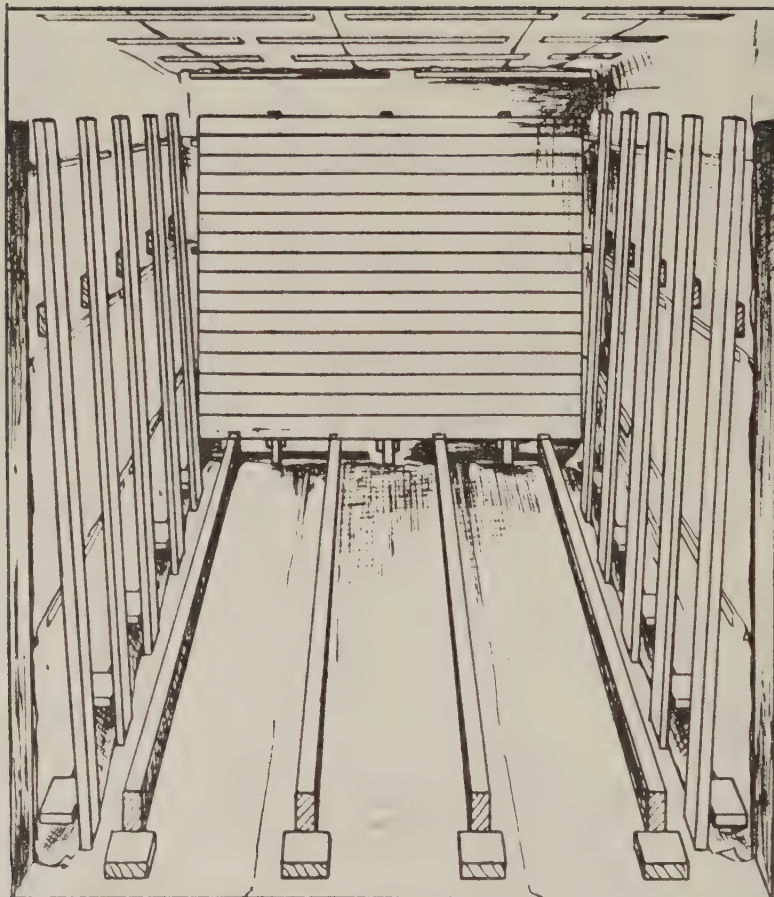

FIG. 8.—First layer of false end wall boards.
9. Nail 8 ft. lengths of the 1 in. boards to the studding at the end of the car (fig. 8). These boards should form a solid, tight false wall from the floor stringers to the top of the studding.